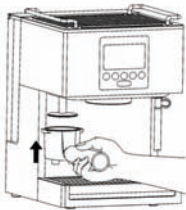

Fig. 4
- 11.9. Remove the excess of coffee from the edge of the filter and compress the coffee by the permanent coffee compressor (6) or the whip of the measuring cup (14) (Fig. 4).
- 12.9. Remove the excess of coffee from the edge of the filter and compress the coffee by the permanent coffee compressor (6) or the whip of the measuring cup (14) (Fig. 4).
- 13.9. Remove the excess of coffee from the edge of the filter and compress the coffee by the permanent coffee compressor (6) or the whip of the measuring cup (14) (Fig. 4).